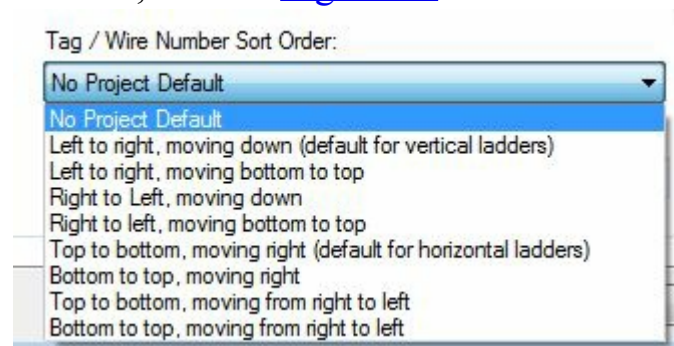

Figure-13. Sort Order drop-down
- The **Tag/Wire Number Sort Order** drop-down is used to specify the order in which the Tags/wire numbers will be arranged in the Project. There are many options in this drop-down to modify the order; refer to Figure-13.